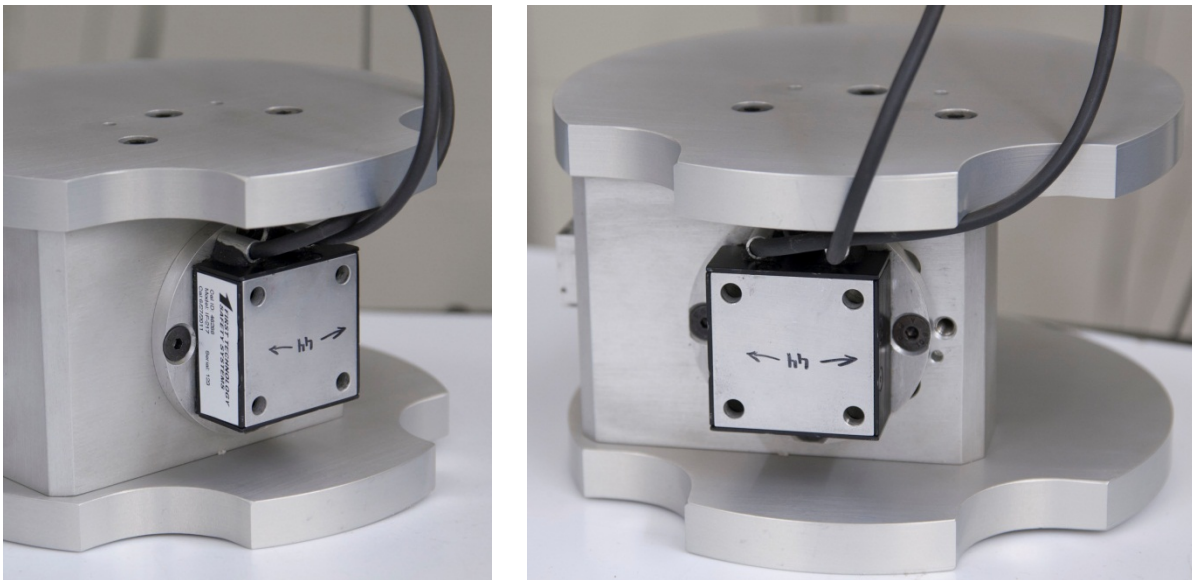

Figure 29. Mount 6 axis upper neck load cell to headform for left lateral neck tests
- Mount the 6 axis upper neck load cell to the headform using four M5 x 12 FHCS. For left lateral flexion tests, use the forward set of bolt holes for the load cell. Wiring should protrude out the right side of the headform (Figure 29).